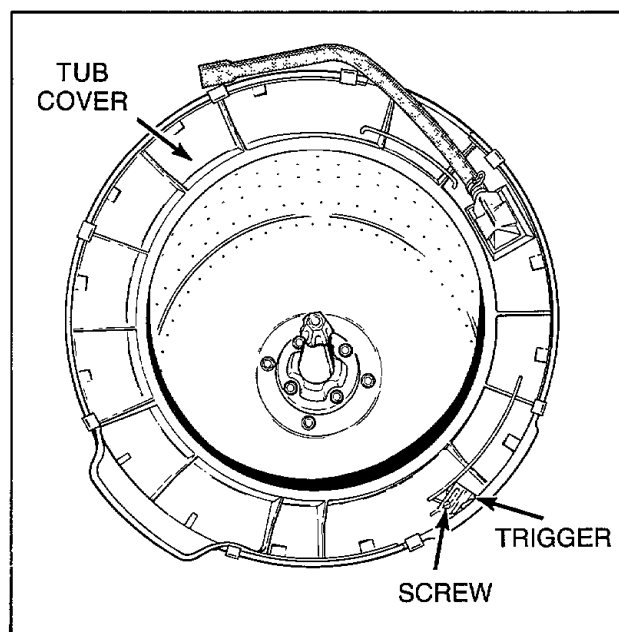

Figure 39
**NOTE:** The trigger is centered, *Figure 39*, on the mounting screw at the factory.
- Loosen screw holding trigger to tub cover, *Figure 39*, move trigger to the right (increases sensitivity) or to the left (decreases sensitivity).